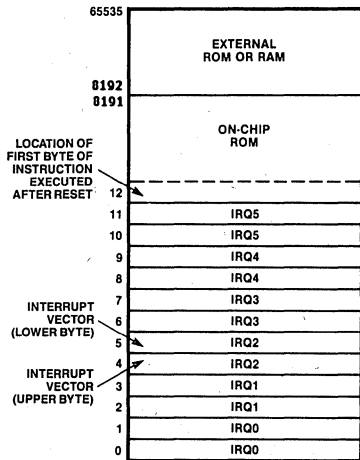

Figure 4. Program Memory Map
**Program Memory.** The 16-bit program counter addresses 64K bytes of program memory space. Program memory can be located in two areas: one internal and the other external (Figure 4). The first 8192 bytes consist of on-chip mask-programmed ROM. At addresses 8192 and greater, the Z86C21 executes external program memory fetches.